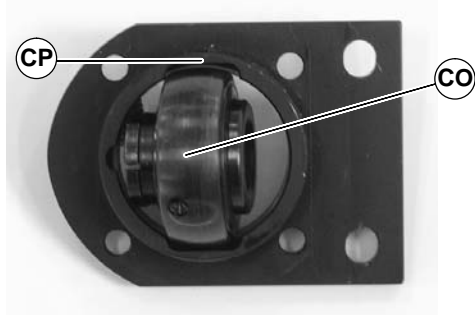

Figure 78
1. Turn bearing (CO of Figure 78) to align with slots (CP) in bearing housing. Then remove bearing.